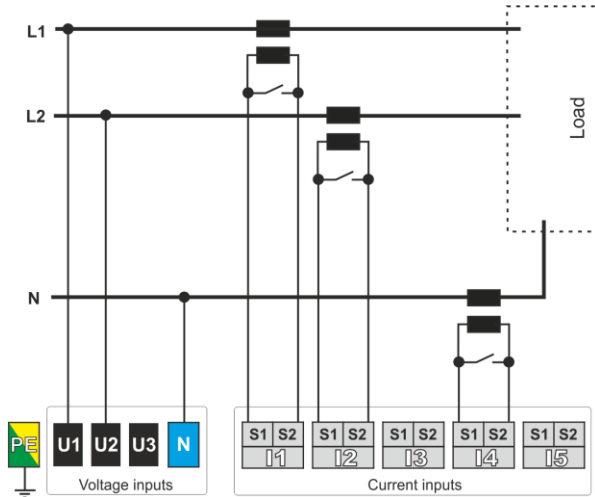

Fig. 25. Wiring diagram – split-phase, direct voltage connection.
- 2-phase (split-phase) with split-winding of the transformer (Fig. 25),